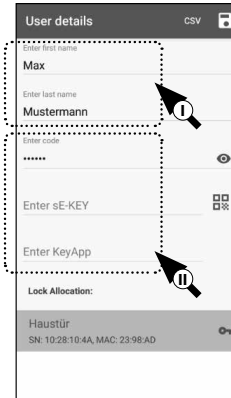

Fig. 31
This section allows you to set up a user code, a radio key sE-Key or another smartphone as an electronic key (II) (Fig. 31).